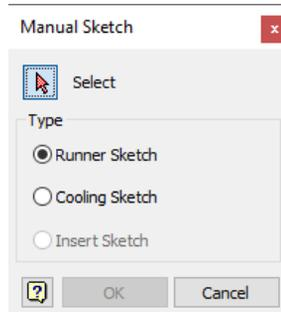

Figure 19-59 The Manual Sketch dialog box
1. Choose the **Manual Sketch** tool from the **Auto Runner Sketch** drop-down in the **Runners and Channels** panel in the **Mold Layout** tab of the **Ribbon**; the **Manual Sketch** dialog box is displayed, as shown in Figure 19-59.